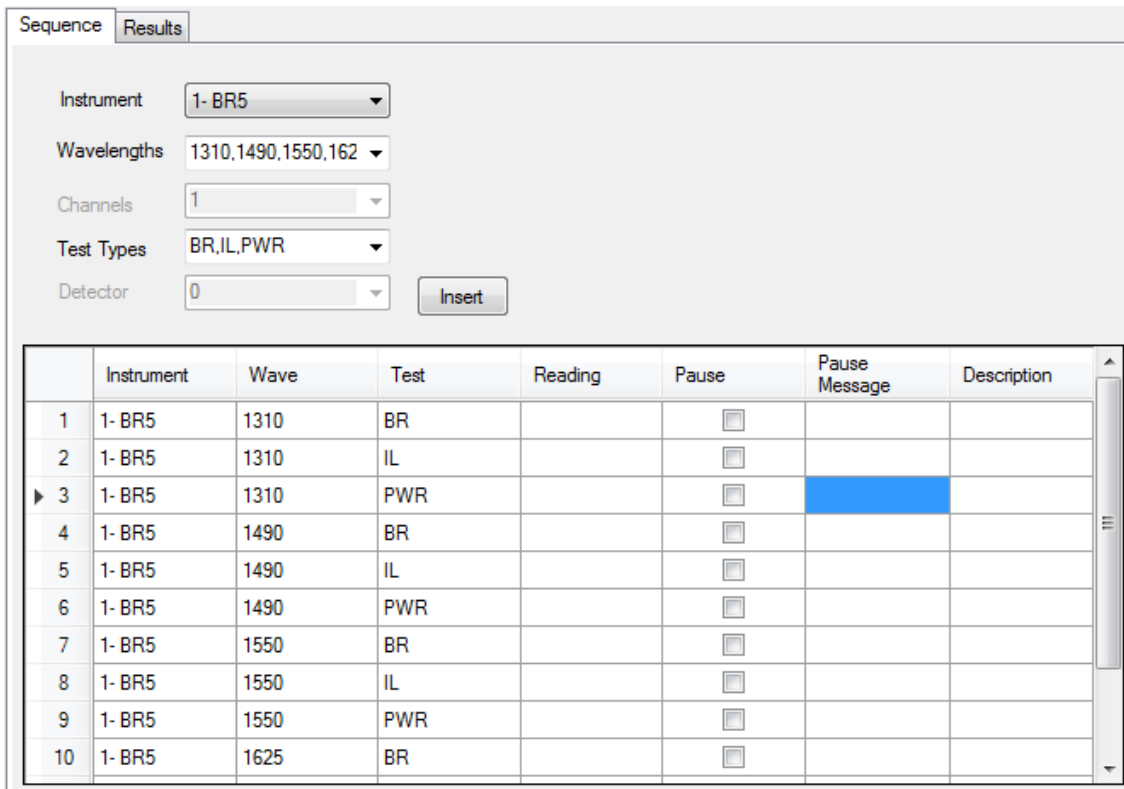

Figure 6.2: 12 tests were created using the parameter list method. Note that all test types selected are added for each selected wavelength in sequential order.
- The Test Parameters method allows you to insert multiple tests into the sequence at once by entering multiple values, separated by commas, into the parameter input boxes (see Fig. 6.2).